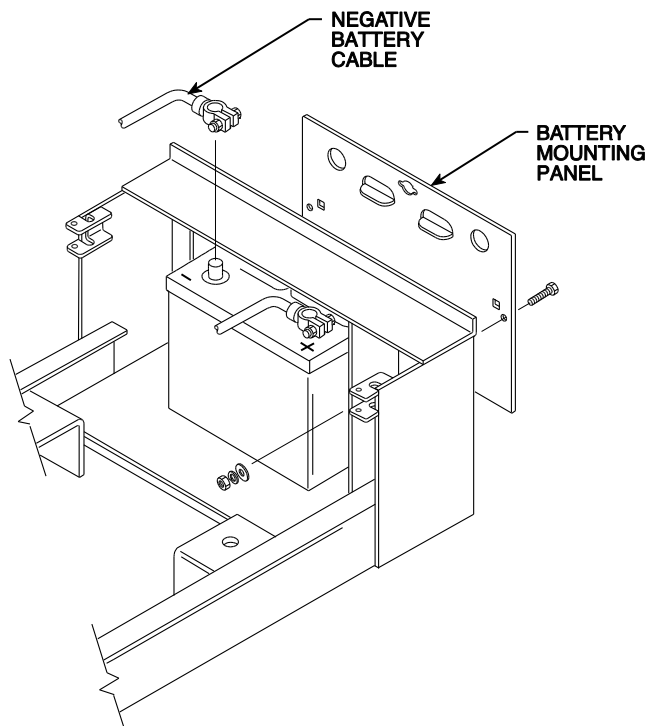

Figure 11
2. Using the 7/16" wrench, remove the two bolts and washers and partially slide out the battery mounting panel. **See Figure 11.**